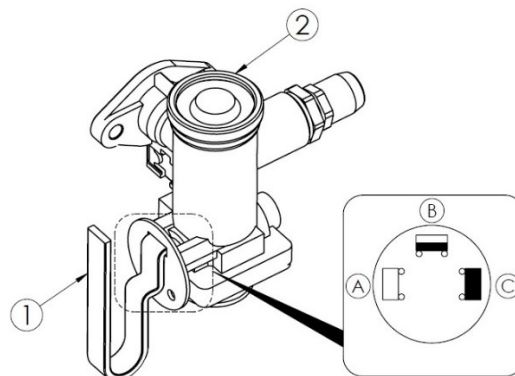

Figure 9 The control valve and brake-force-control system for 2-line pneumatic brakes
The braking-force-control system (1) in Figure 9 is used in the pneumatic braking system to adjust the braking force according to the degree of the structure load. Switching to the correct operation mode is done manually by shifting the position of the lever (2). It is operated by machine operators before they start driving. Three work settings are available - (A) "UNLADEN", (B) "HALF LOAD", (C) "FULL LOAD".